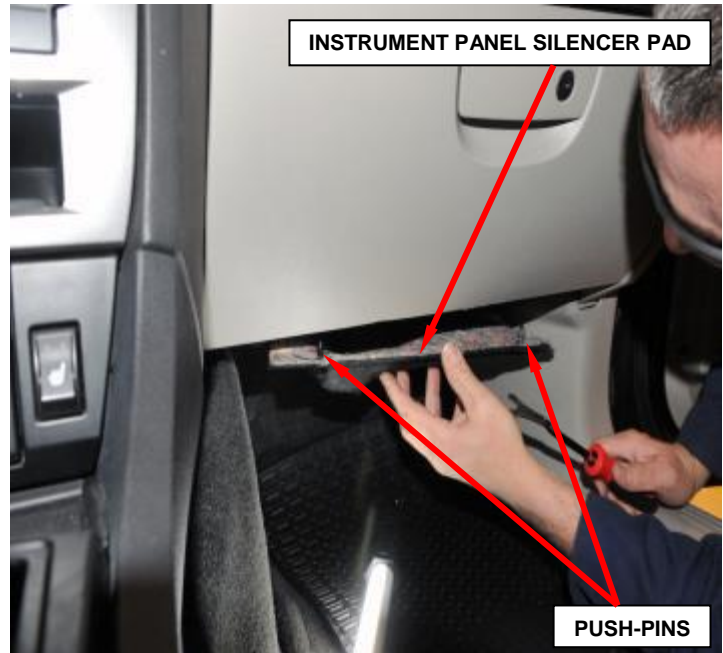

Figure 21 - Instrument Panel Silencer
- a. Remove and save the two push-pins that secure the instrument panel silencer to the instrument panel (Figure 21).